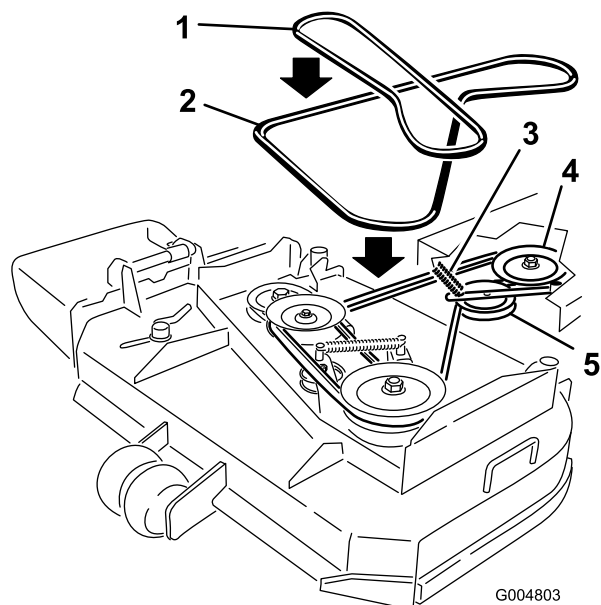

Figure 45
6. Roll the belt off of the center pulley on the mower deck (Figure 45). Use caution when removing the belt as tension will increase because of the spring loaded idler pulley.
7. Remove the belt from the engine pulley and the spring loaded idler pulley (Figure 45).
8. Install the new belt onto the engine pulley and spring loaded idler pulley (Figure 45).
9. Roll the belt onto the center pulley on the mower deck (Figure 45). Use caution when install the belt as tension will increase because of the spring loaded idler pulley.